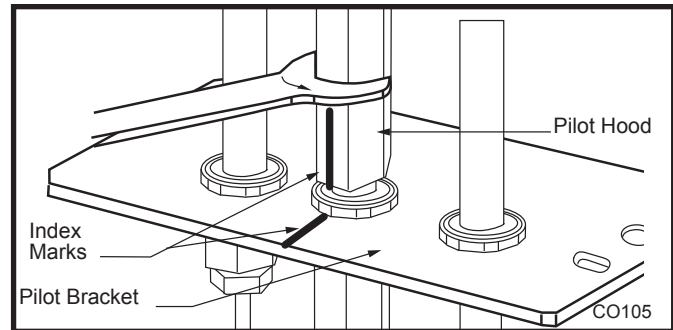

Fig. 72 Remove pilot hood. (Your pilot may have a different appearance.)
- Loosen pilot hood turning counterclockwise using a 7/16” wrench. (Fig. 72) **NOTE:** You may use penetrating oil to prevent pilot hood threads from seizing up.